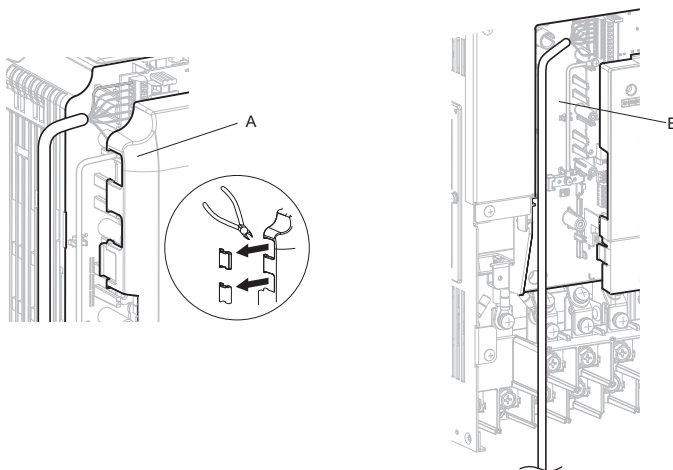

Figure 8 Wire Routing Examples
7. Route the option wiring inside the enclosure as shown in ***Figure 8-B***. Take proper precautions so that the front covers will easily fit back onto the drive. Users may also choose to route the option wiring through openings on the front cover of some models. Remove the perforated tabs on the left side of the front cover as shown in ***Figure 8-A*** to create the necessary openings on these models. Refer to the Peripheral Devices & Options section of the drive instruction manual for more information.